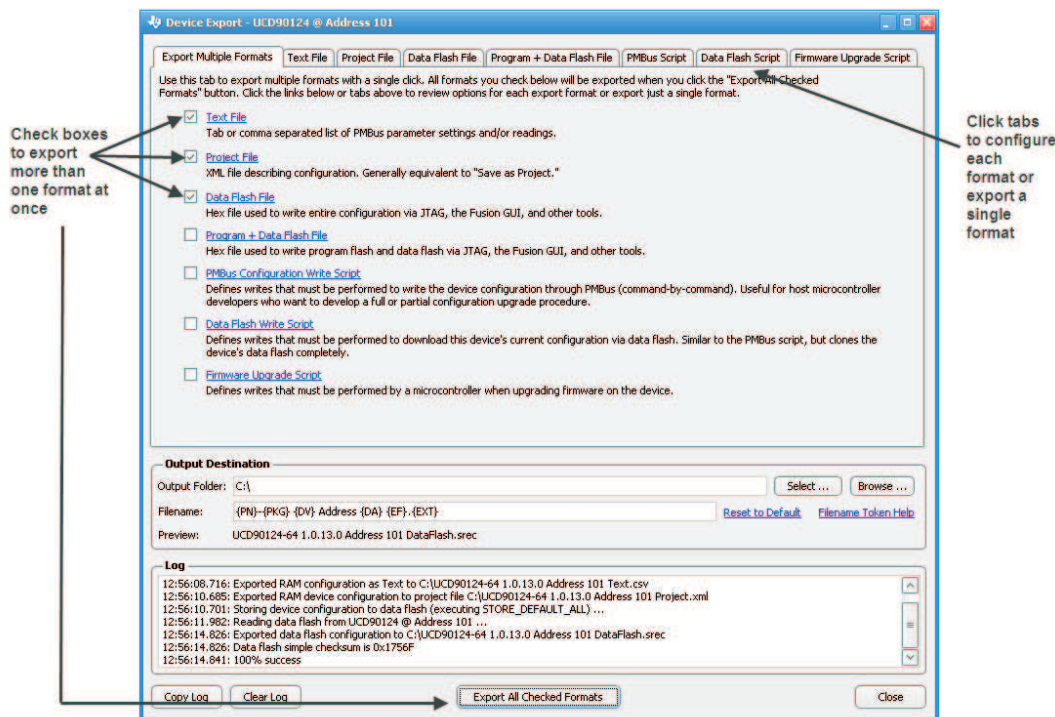

Figure 25. Fusion GUI Device Configuration Export Tool
- Another in-circuit programming option is for the *Fusion GUI* to create a data flash image from the configuration file (Figure 25). The configuration files can be exported in Intel Hex, Serial Vector Format (SVF) and S-record. The image file can be downloaded into the device using I²C or JTAG. The *Fusion GUI* tools can be used on-board if the *Fusion GUI* can gain ownership of the target board I²C bus.